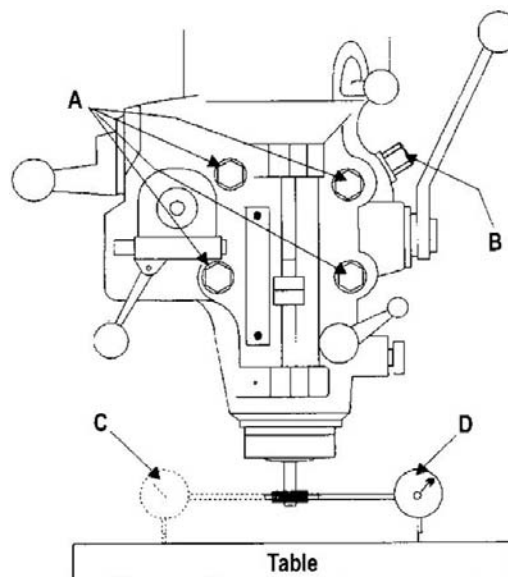

Figure 9: Test perpendicularity
5. Set up a dial indicator in a collet and secure using the draw bar (refer to Figure 9).
- c. Set up a dial indicator in a collet and secure using the draw bar (refer to Figure 9).